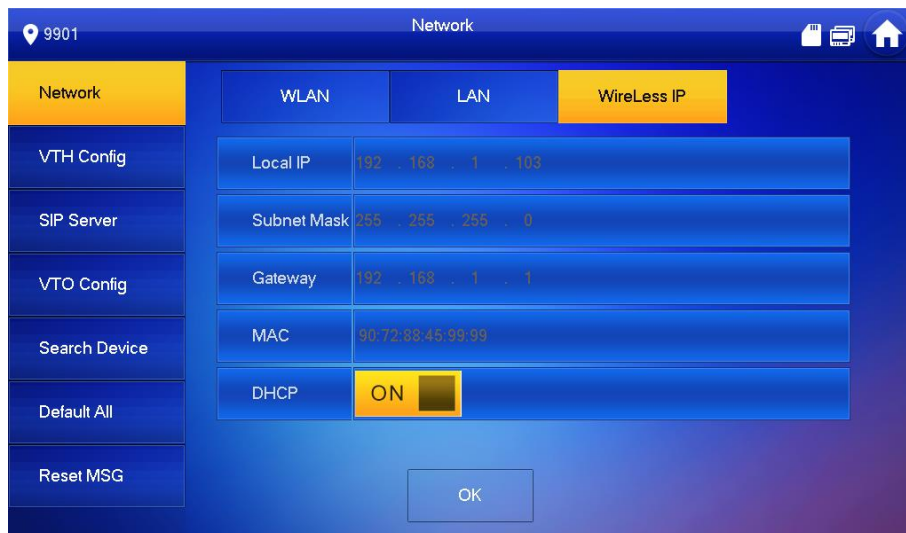

Figure 5-18
- ◇ At “WLAN” interface, select Wi-Fi, click “Wireless IP” tab, press OFF to enable DHCP function and obtain IP info automatically, as shown in Figure 5-18.